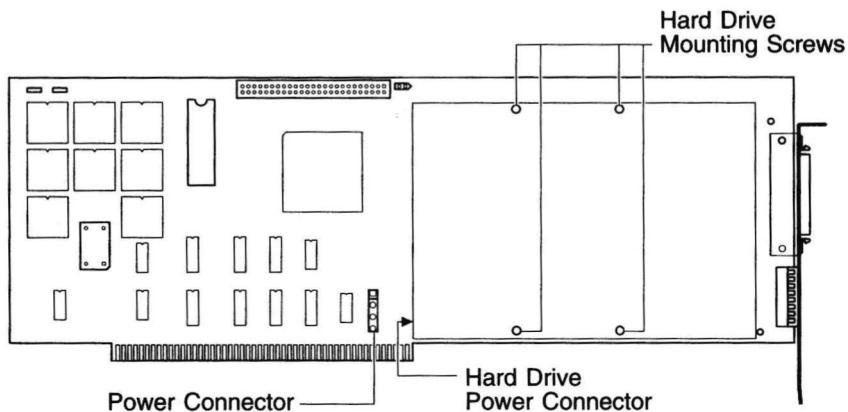

Figure 3. Installing a Hard Drive on the Board
2. Remove the four hard drive mounting screws and nuts on the board, illustrated in Figure 3.